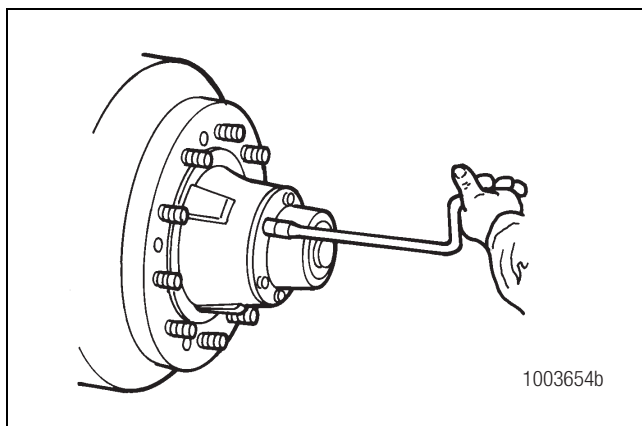

Figure 2.6
- Place a container under the hubcap to receive the draining oil. Then, remove the hubcap and hubcap gasket from both ends of the axle. Figure 2.6. Do not reuse either the hubcap gasket or the oil.